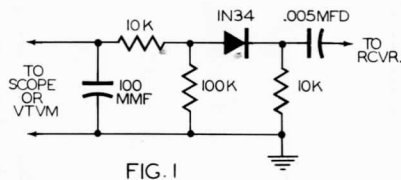

FIG. 1
A8, A9	Set tuner to UHF position. Connect a 220Ω in series with a .0015MFD capacitor (ceramic) between pin 1 (plate) of 4BQ7A and chassis with the capacitor end connected to pin 1 of 4BQ7A and resistor end to chassis. If VHF generator is used as a marker, couple it loosely to detector (Fig. 1). Connect a second bias supply to point (D). Positive side to tuner case. Adjust for ~3 volts at point (D). Attenuate sweep generator for 0.5 volts peak to peak on scope. Adjust A8 and A9 for maximum gain as in Fig. 4.
A10, A11	Tuner in UHF position. Loosely couple marker generator to detector (Fig. 1). If necessary, adjust A10 and A11 to place 45.75MC marker at peak of curve with MINIMUM tilt. Remove 220Ω resistor and .0015MFD capacitor from pin 1 of 4BQ7A tube. Remove detector and scope from point (E).